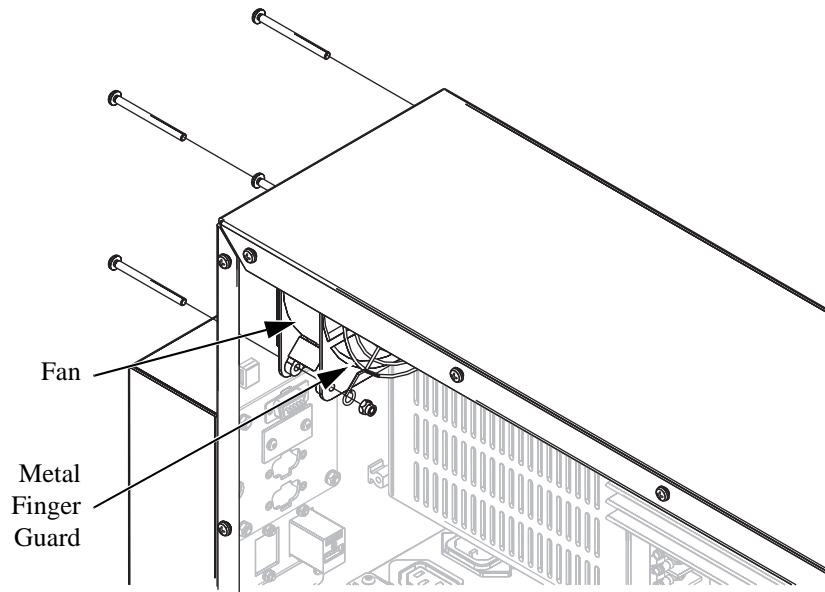

Figure 9-39 Removing the Exhaust Fan
4. While supporting the fan, use a Phillips-head screwdriver and an adjustable crescent wrench to remove the fan mounting screws, hex nuts, and metal finger guard (see Figure 9-39). Retain all mounting hardware.